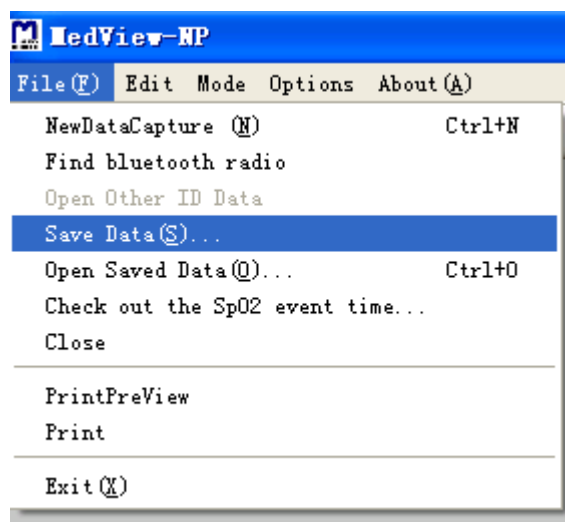

Figure 8-5
By choosing the "Save data (S)" menu as shown in Figure 8-5 you can save the current patient's data information to data document. Three extensions are supported, .dat. .txt. and .xls.